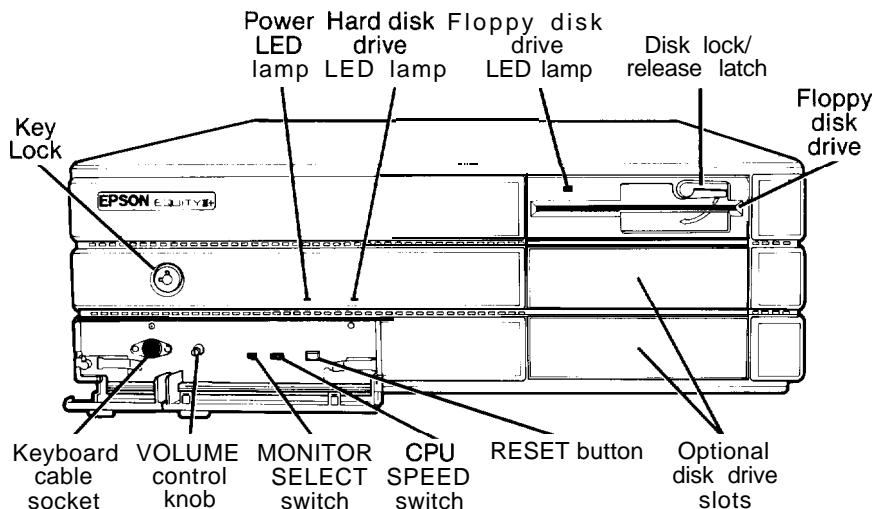

Figure 1-2. Front panel
Figure 1-2 identifies the various components on the front panel.
5. Set the monitor switch on the front panel of the main unit for the type of monitor you are using. (See Figure 1-2.) Slide the switch to the left for a monochrome monitor or to the right for a color monitor.